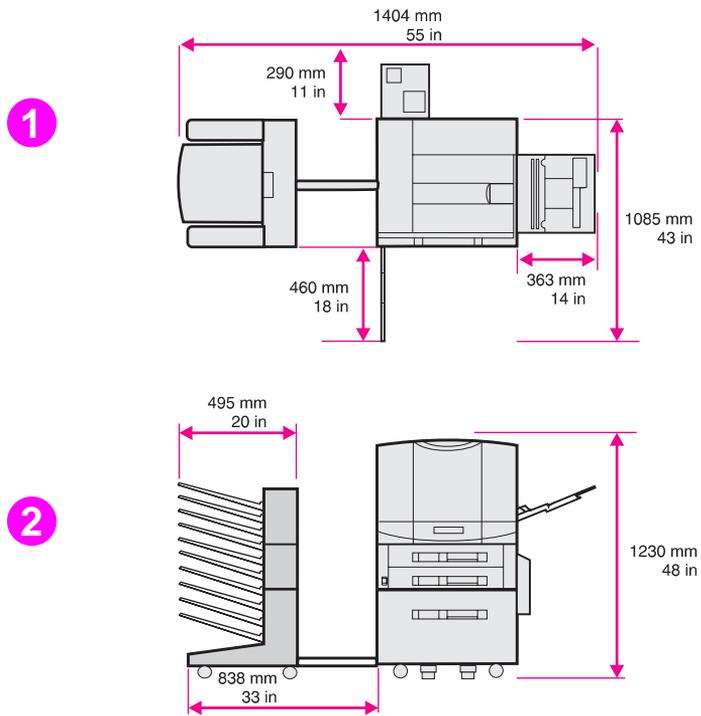

Figure 1.
- Install the printer away from walls or other objects. There must be enough space around the printer for proper access and ventilation (see figure 1 on page 25).